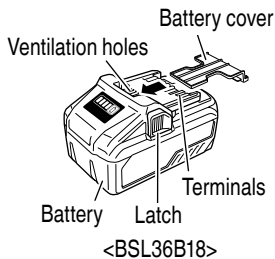

Fig. 6
- **Either install the battery in the power tool or store by securely pressing into the battery cover until the ventilation holes are concealed to prevent short-circuits (See Fig. 6).**